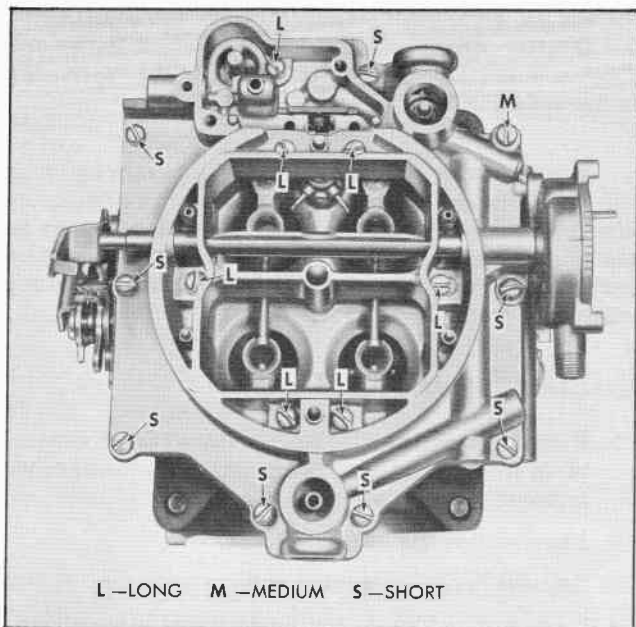

Fig. 11 Location of Air Horn Attaching Screws
14. Remove 16 air horn attaching screws (Fig. 11).